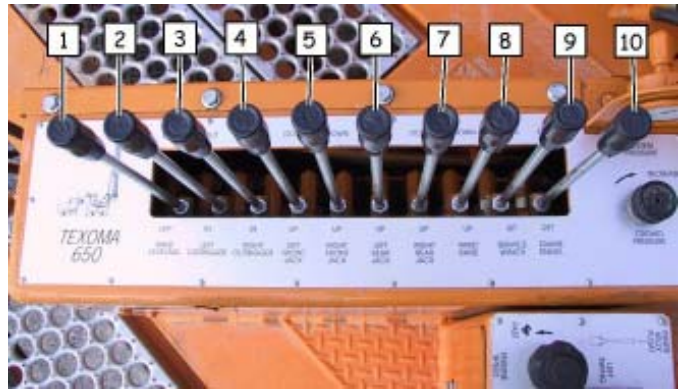

Fig. 3-5 Main Valve Bank
2. Pull mast raise lever (item 8, fig. 3-5) to raise mast.
3. Push service winch lever (item 9, fig. 3-5) to spool off cable as mast raises.